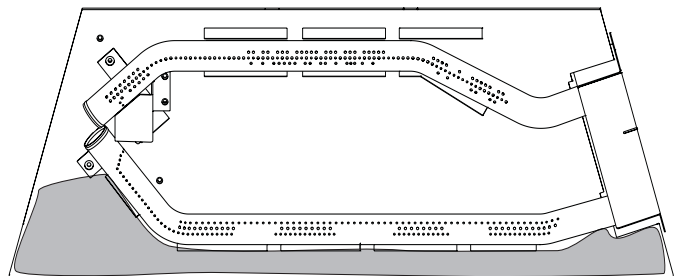

Figure 4
- Coals may be placed along the front burner (gray area) as shown in **Figure 4**. Do not place coals over burner ports.